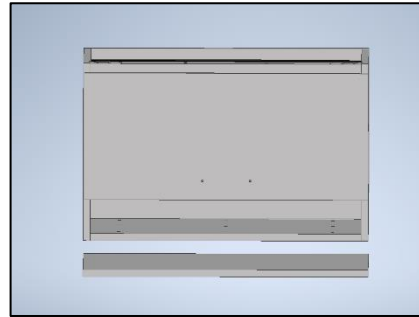

Figure 1
1. Lay the top upside down on a nonmarring surface (Figure 1)